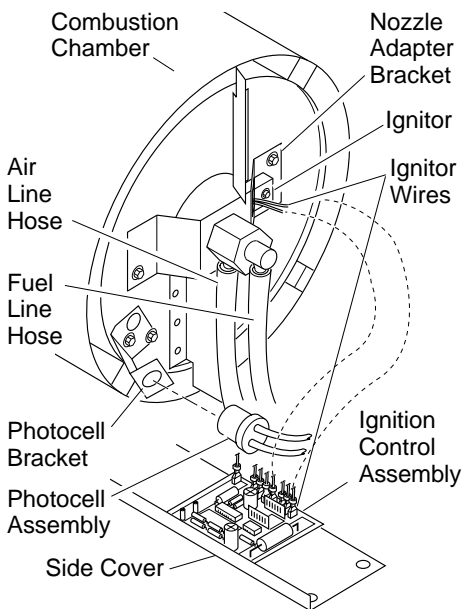

Figure 11 - Disconnecting Ignitor Wires from Ignition Control Assembly
4. Disconnect ignitor wires (gray) from ignition control assembly (see Figure 11). Pull the ignitor wires up through the hole in the lower shell.
5. Disconnect fuel line hose and air line hose. Remove photocell from photocell bracket (see Figure 11).